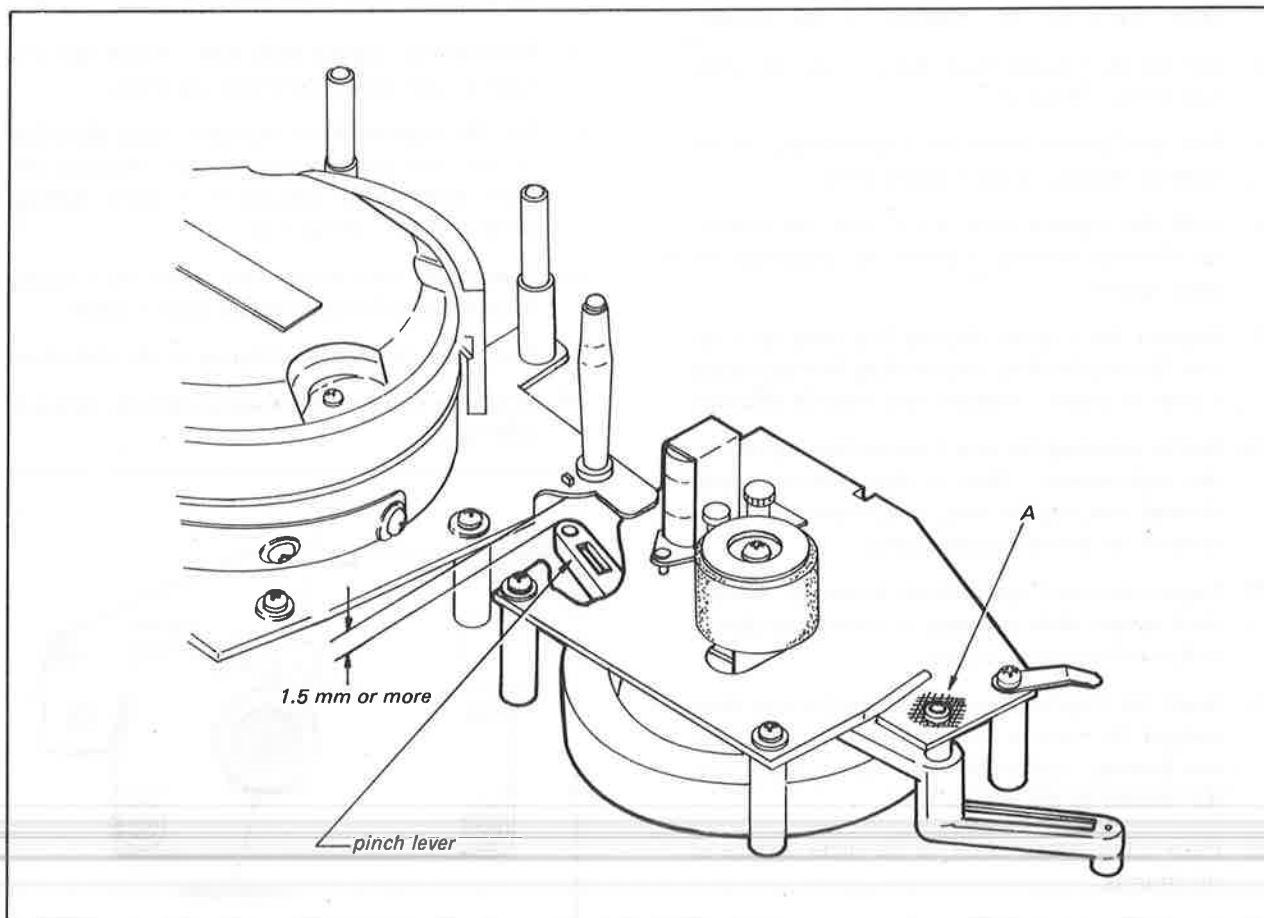
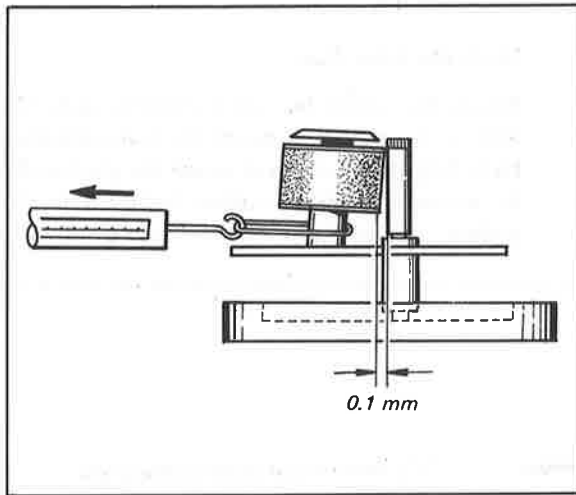

Fig. 4-23. Pinch lever adjustment
Fig. 4-24. Pinch roller adjustment
3. Set the Function Lever to FORWARD. Check that the clearance between the upper end of the Pinch Lever and the lower end of the Drum Mounting Deck is more than 1.5 mm. See Fig. 4-23. If it needs adjustment, bend "A" in Fig. 4-23, with a pair of pliers. Recheck Pinch Roller Pressure as described in Section 4-18.
1. Set the Function Lever to FORWARD. Check for 0.1 mm clearance between the lower end of the Pinch Roller and the Capstan Shaft when the upper end of the Pinch Roller contacts the Capstan Shaft. See Fig. 4-24. Bend "A" in Fig. 4-23 with a pair of pliers as needed to obtain the correct spacing.
2. Place the Function Lever in the FORWARD position. Make a loop in a piece of string and attach the spring scale around the base of the Pinch Roller Shaft. See Fig. 4-24. Pull the scale in the direction indicated by the arrow. Check the reading when the Pinch Roller just leaves the Capstan Shaft. It should be between 1.5 and 2.2 kg.